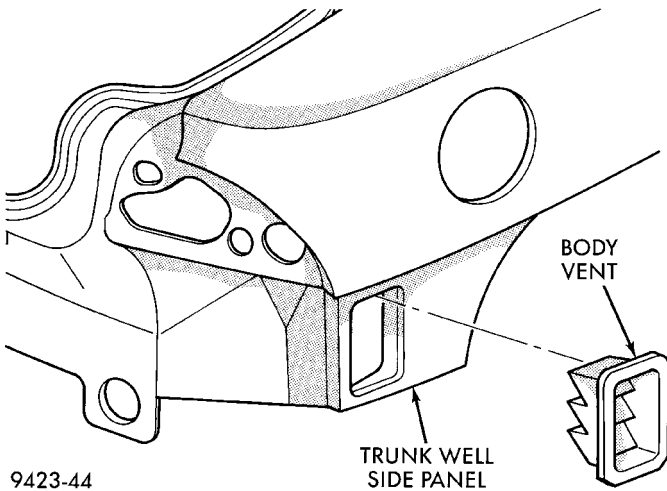

Fig. 71 Body Vent
- (1) Hoist rear end of vehicle and support on safety stands.
- (2) From behind rear bumper fascia below quarter panel, disengage clips holding body vent to trunk well.
- (3) Separate body vent from vehicle (Fig. 71).